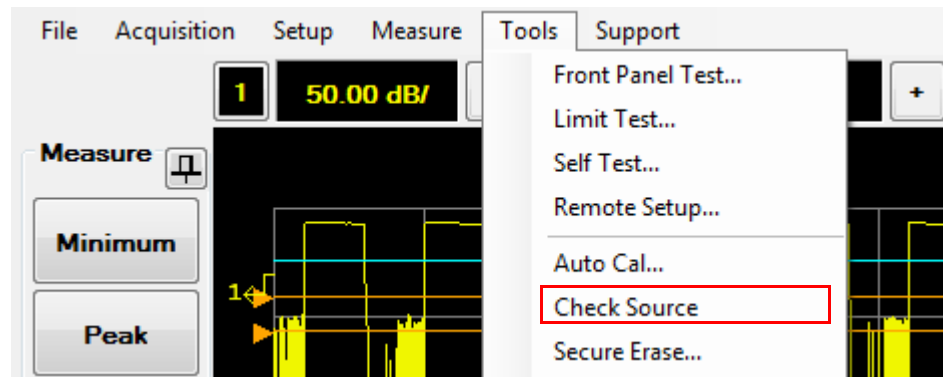

Figure 2-135 Check Source selection in the Tools menu
- 1 Select **Tools > Check Source** on the toolbar as shown in Figure 2-135.